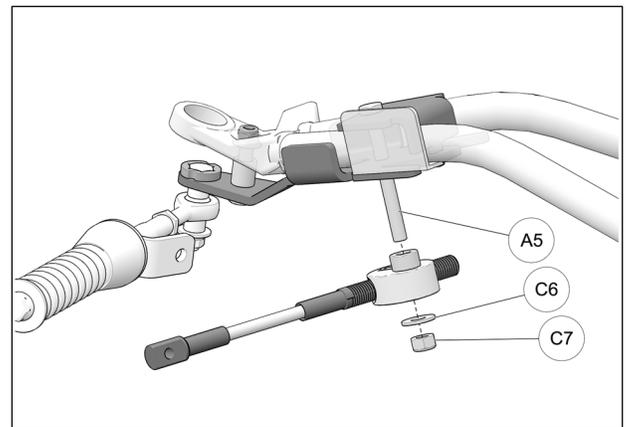

Fig. 24
14. Position Steering limiter cable assembly under front anchor bracket and slide it up on the previously inserted bolt (A5). Assemble using washer (C6) and nut (C7). Tighten nut to 50 N•m [37 lb•ft]. See Fig. 24